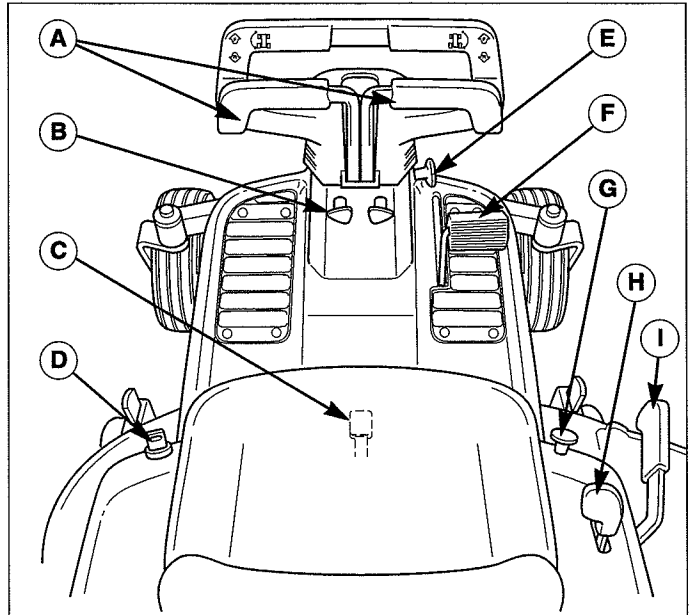

Figure 3. Rider & Mower Controls (Operator's Position)
2. Set engine throttle control (H, Figure 3) all the way up to CHOKE. A warm engine may not require choking.
3. Disengage the PTO by pushing the PTO switch all the way down (G, Figure 3)
4. Insert the key into the ignition switch (D, Figure 3) and turn it to START.
5. After the engine starts, move the engine throttle control (H, Figure 3) to SLOW. Warm up the engine by running it for at least a minute before engaging the PTO switch or driving the rider.
1. Returning the ground speed control levers (A, Figure 3) to the middle positions will stop rider movement. **For emergency stopping depress the clutch/brake pedal** (see F, Figure 3).
2. Disengage the PTO by pushing down on the PTO switch (See G, Figure 3).
3. Set engine throttle control (H, Figure 3) to mid-throttle position and turn the ignition key to OFF. Remove the key.